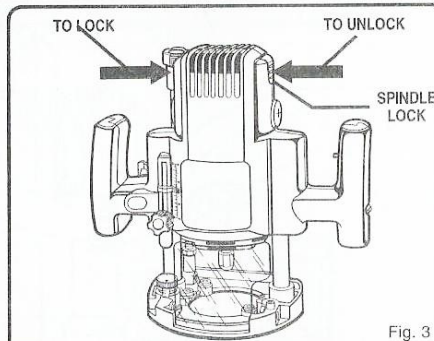

Fig. 3
See Figures 3 and 4.
- Place the spindle lock into lock position. See Figure 3.